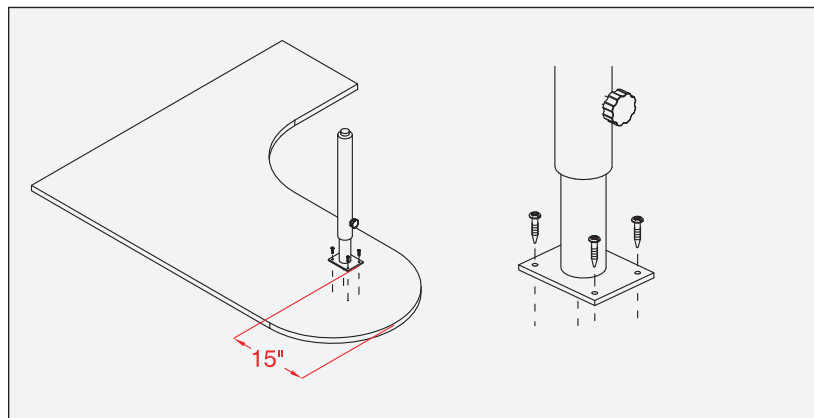

Fig. 13
- A. Turn Desktop upside down and mount Round Leg Assembly at approximately 15" from the front edge of the Desktop to the edge of the flange plate, using (4) # 10 x 1" Phillips Pan Head Wood Screws and a Phillips Head Screw Driver (Fig. 13).